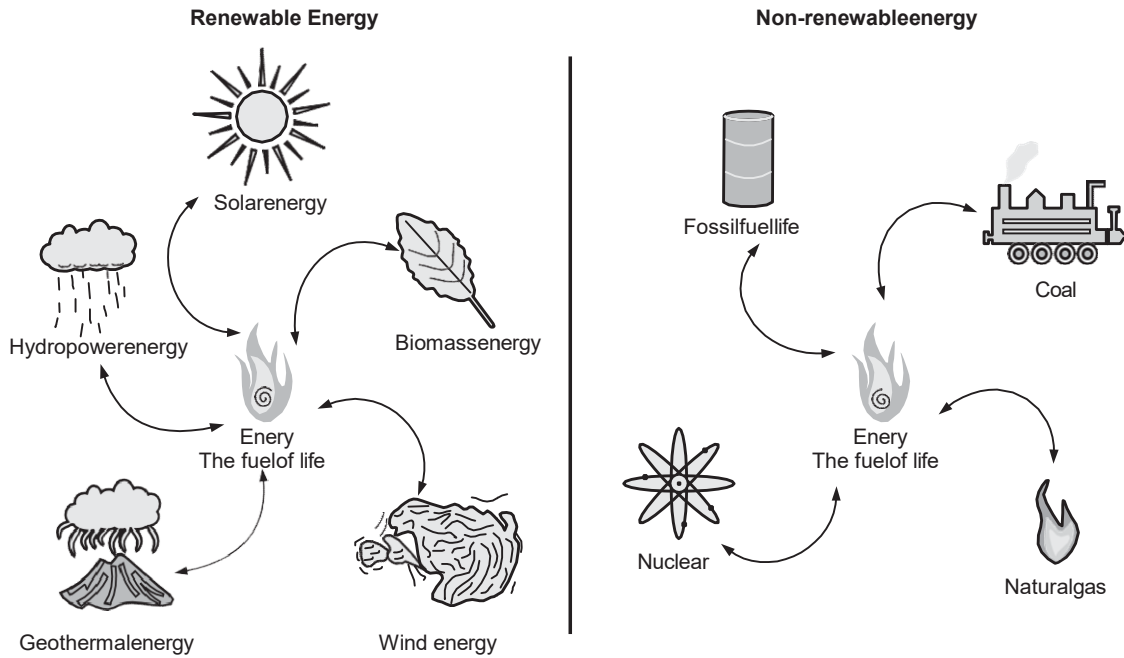

Fig. 1.2.2
- Examples of renewable resources include wind power, solar power, geothermal energy, tidal power and hydroelectric power (See Fig. 1.2.2).